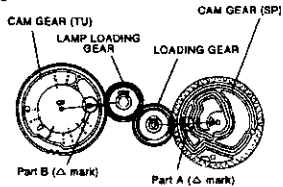

Fig. 2-21-3
- 2 Set the CAM GEAR (SP) shown in Fig. 2-21-3 so that the Δ mark on the part A of it points to the centre of the LOADING GEAR.
- 3 Install the CAM GEAR (TU) shown in Fig. 2-21-3 so that the Δ mark on the part B of it points to the centre of the LAMP LOADING GEAR.